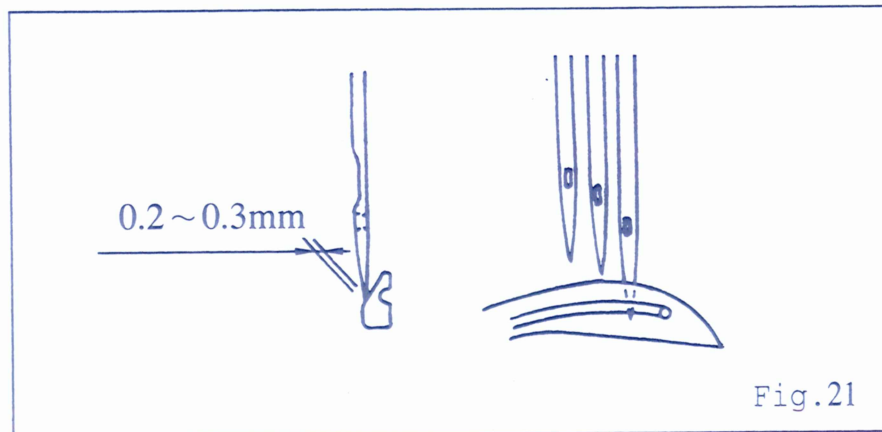

Fig.21
3. When the Loper reversed, the right needle stick on 1/4 be high of the Loper's slant edge. (Fig 21)